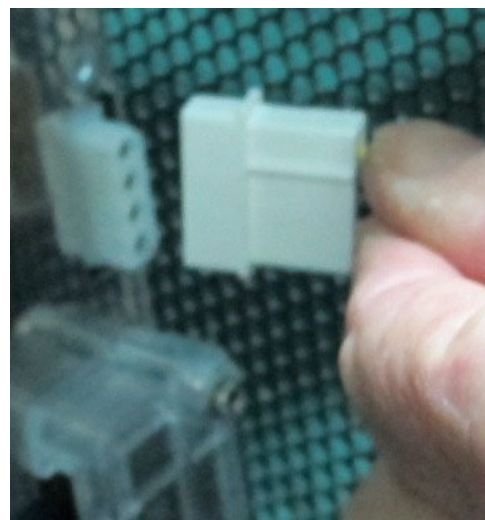

Figure 8-136 Disconnecting BE-to-FEPS Cable from Back End
- 4.) Disconnect the BE-to-FEPS cable from the Back End, as shown in Figure 8-136.
- 6.) Reconnect the FEPS cable to the Back End - refer to Figure 8-136 on page 8-106.